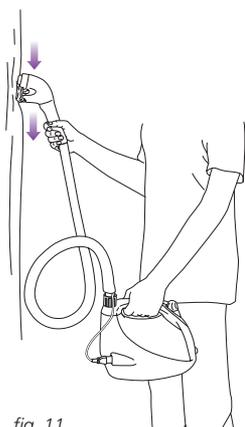

fig. 11
- 4 Hold the unit at waist level in one hand or place on a table. (Fig. 11)